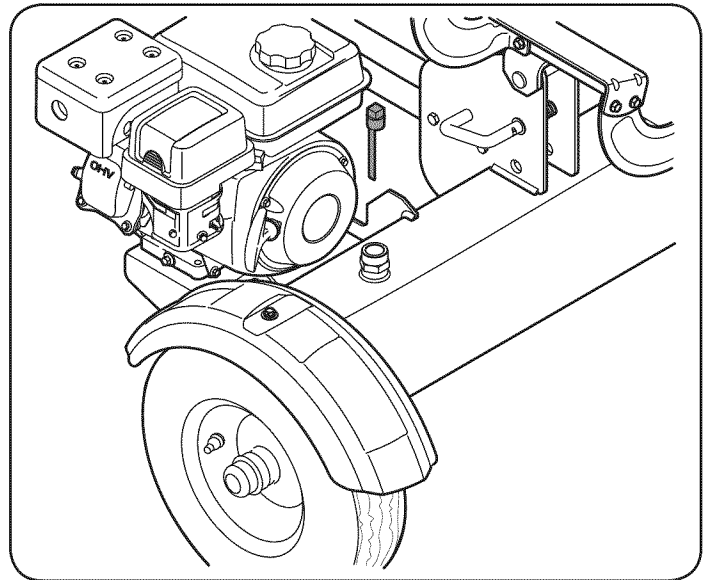

Figure 10
2. Remove the vented reservoir dipstick, which is located in front of the engine on top of the reservoir tank. See Figure 10.